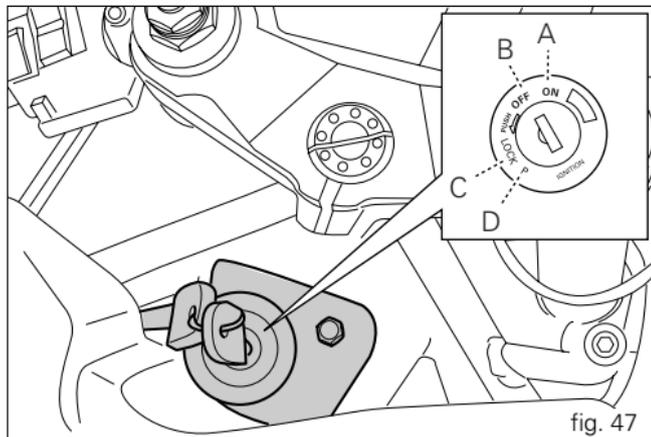

fig. 47
1) Turn the ignition key to ON (fig. 47). Check that both the green light N and the red light  on the instrument panel come on.